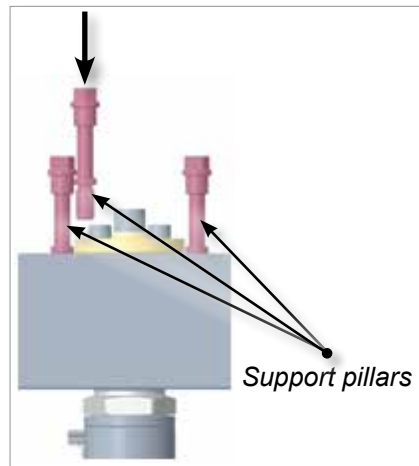

Figure 5-11 Valve insert design: install support pillars
- a) For the valve insert design: install the support pillar on top of the manifold. See Figure 5-11.